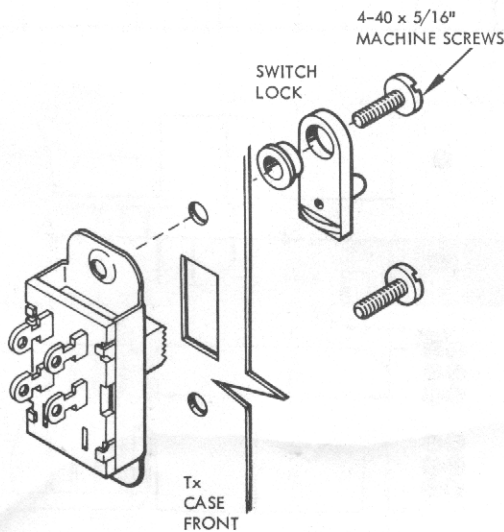

Figure 20. Switch Installation
- 151. Position ON-OFF switch in Tx case, solder lugs up. Secure with two No. 4-40 x 5/16" machine screws through front of case. Note that upper screw also holds switch lock in place. (Figure 20)